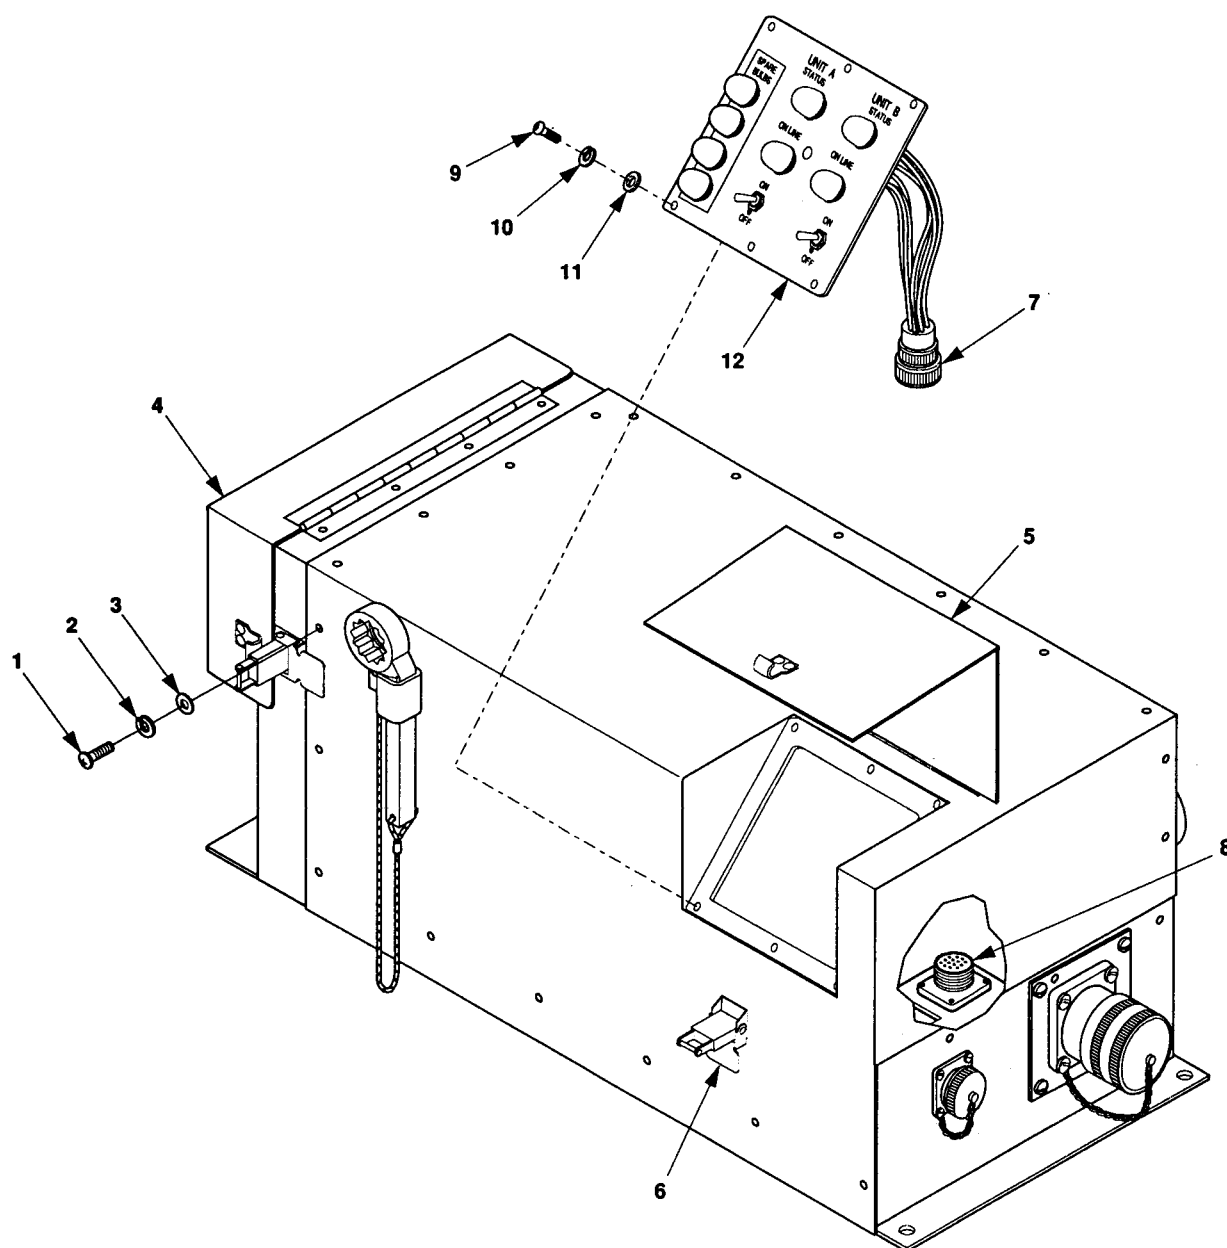

Figure 5-13. Control Panel, Wiring Harnesses, and Wiring Leads Maintenance,
1. Release clamping catch (6, figure 5-13) and open the control panel access cover (5).
- 1. Remove 21 machine screws (1, figure 5-13), lock washers (2), and flat washers (3) that secure the switch box access cover (4) to the switch box assembly. Discard lock washers.
1. Remove 21 machine screws (1, figure 5-13), flat washers (3), and lock washers (2) that secure the switch box cover (4) to the switch box assembly.